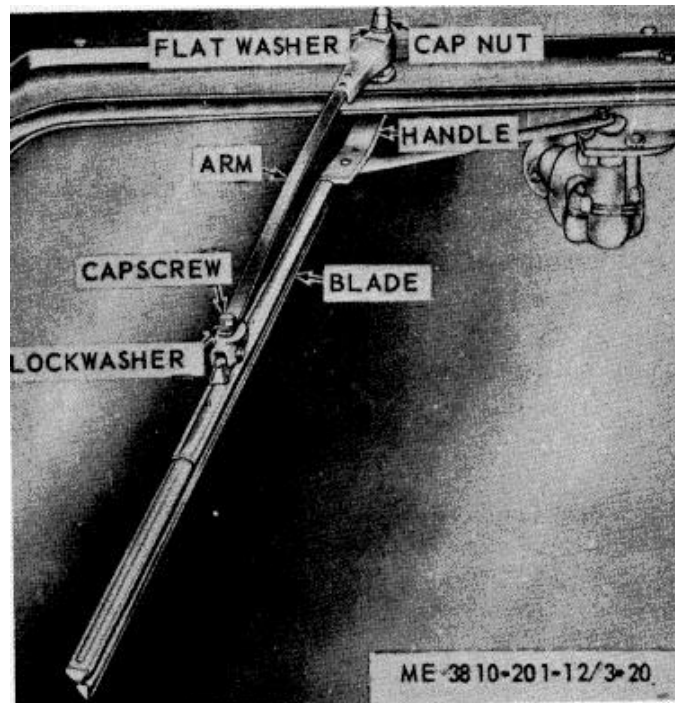

Figure 3-20. Windshield wiper service (winterized models only).
(1) To replace arm and blade, remove cap nut and flatwasher (fig. 3-20) and lift arm off pivot post.
(2) To replace arm or blade; remove capscrew and lockwasher; separate blade from arm, then replace defective blade or arm, and secure with lockwasher and capscrew.
(3) Install wiper arm or pivot post, then secure with flatwasher and capnut.